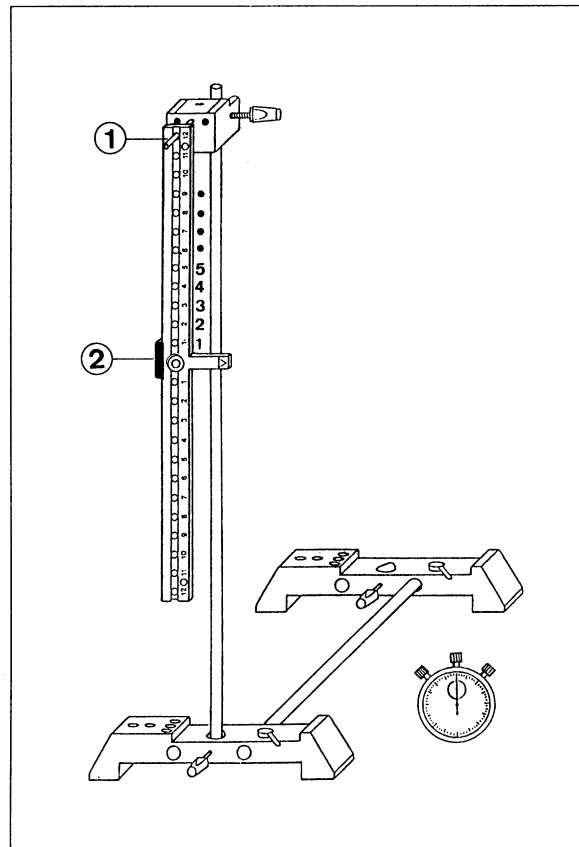

Fig. 1 Experimental setup: bar pendulum
1. Assemble the items of apparatus as shown in fig. 1.
2. Insert the spindle (1) into a hole in the sleeve block.
3. Slide the balancing rider (2) to the centre of the lever.
5. What is the number n of the hole matching the of the "bar pendulum"'s axis of rotation, as shown in fig. 1?